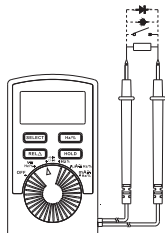

Figure 6
6. Measuring Capacitance(See Figure 6)